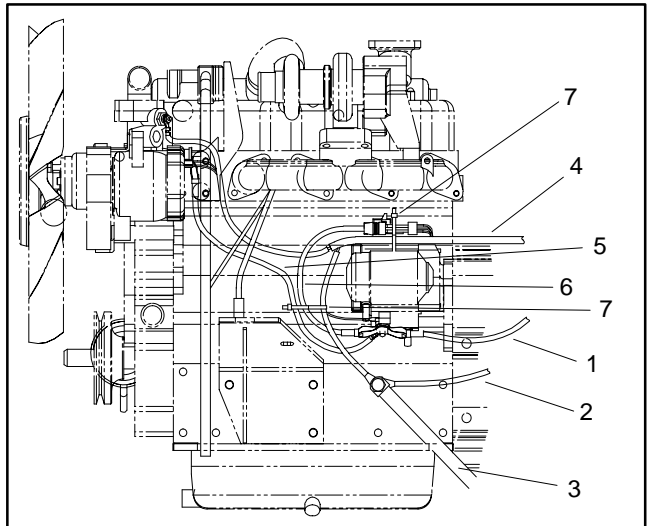

Figure 14
- D. Battery, frame, and wire harness ground at the engine block (Fig. 14).
- E. The electric starter (Fig. 14) and low oil pressure switch (near electric starter).
- D. Battery, frame, and wire harness ground to the engine block (Fig. 14).
- E. The starter (Fig. 14) and low oil pressure switch (near starter).